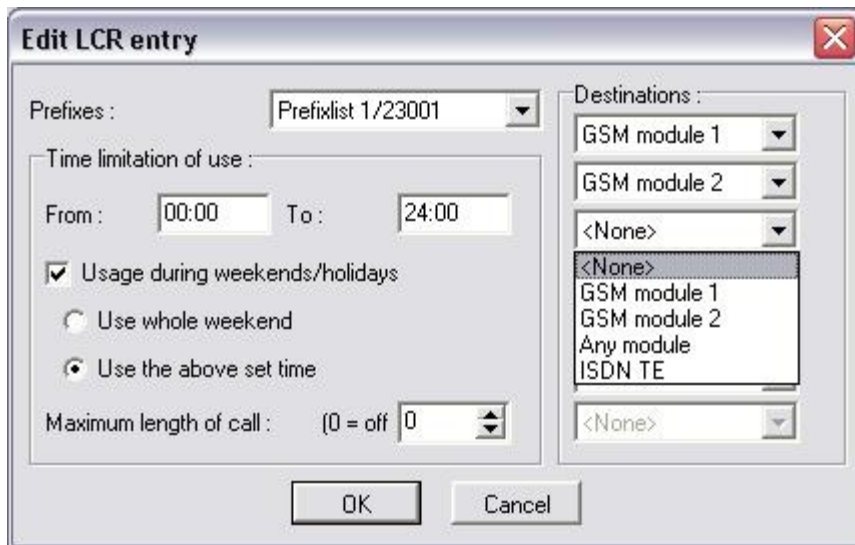

Fig. 43 – LCR table Data Entering
- *Add* – this button adds a record into the LCR table. By pressing it you open the editing window (see Fig. 43).